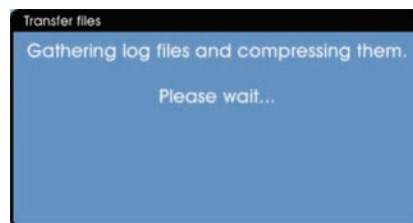

Figure 159: Information message box
7. An information message box briefly appears (see Figure 159).